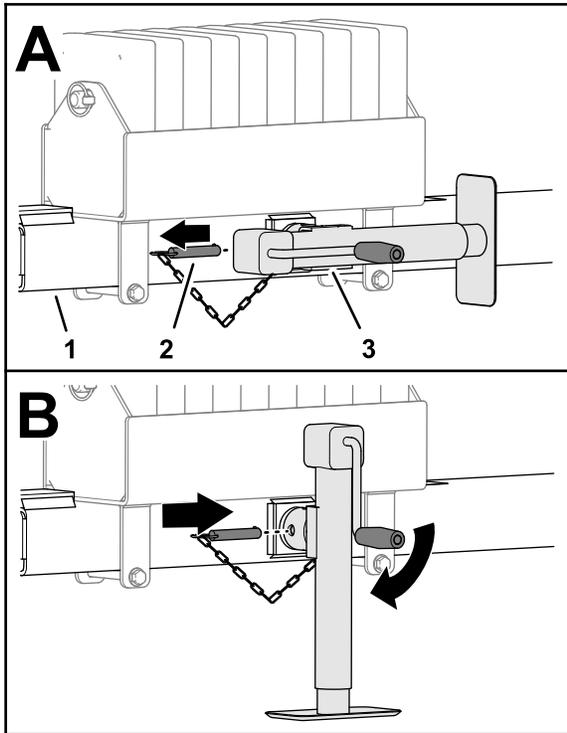

Figure 27
1. Remove the pin that secure the jack to the hitch tube, and remove the jack; refer to Figure 27 in Supporting the Front of the Machine with the Jack (page 27).
4. Remove the pin that secure the jack to the hitch tube (Figure 27).
5. Rotate the jack vertical (Figure 27).
6. Insert the pin through the horizontal holes on the jack and hitch tube (Figure 27).